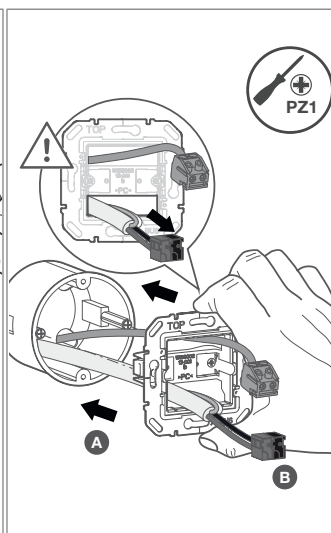
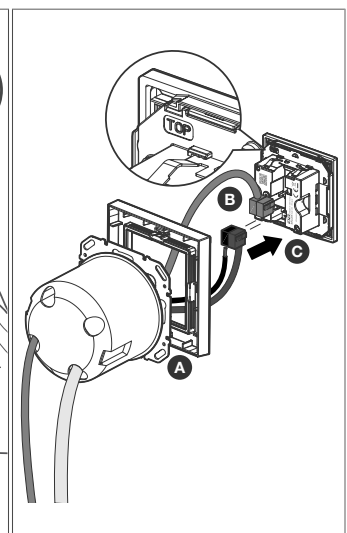

Fig. 9: Optional: Run through cable for ext. temperature sensor
Fig. 10: Optional: Run through cable for ext. temperature sensor
- Also run the connection cable for the external temperature sensor with the connecting terminal through the frame and connect it to the back of the device. Feed the connection cables for the external temperature sensor above the centre bar (Fig. 9/Fig. 10).